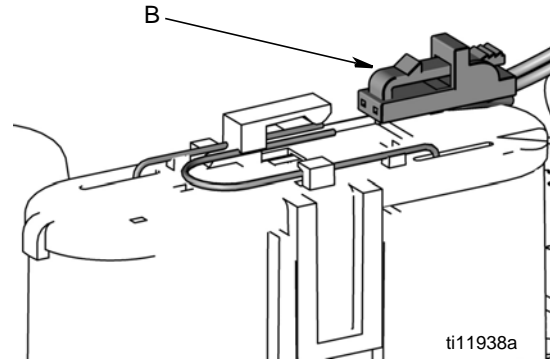

FIG. 3
3. Unsnap battery lead (B) (FIG. 3).